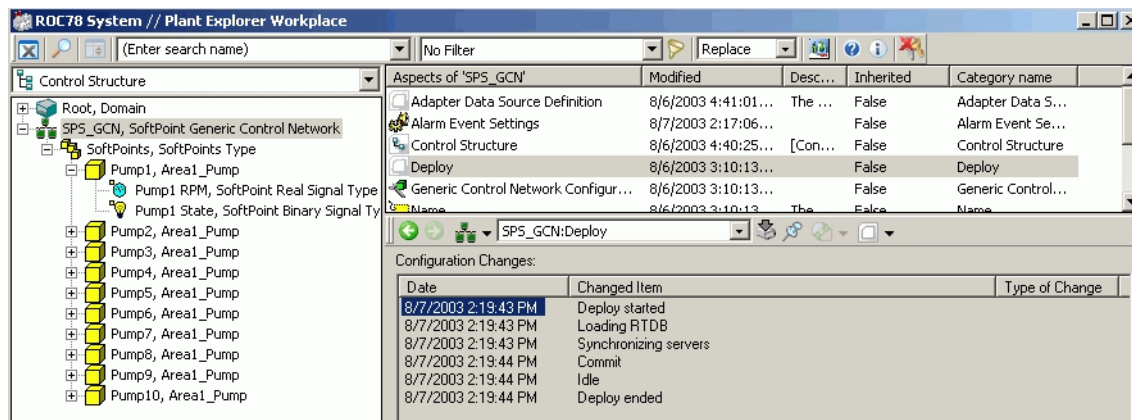

Figure 38. Deploy Ended Indication
- Click **Deploy** to start the deploy process. During this time, SoftPoint processing is suspended, current values and new inputs are held. This process is generally completed within five minutes, even for large configurations. Completion of the deploy process is indicated by the **Deploy ended** message, Figure 38.